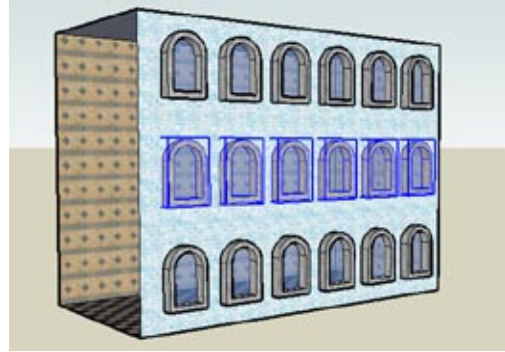

Figure 1-13
13. Enter  $2x$  (or whatever number works for you) and adjust the spacing to fill the wall with windows (Figure 1-13).